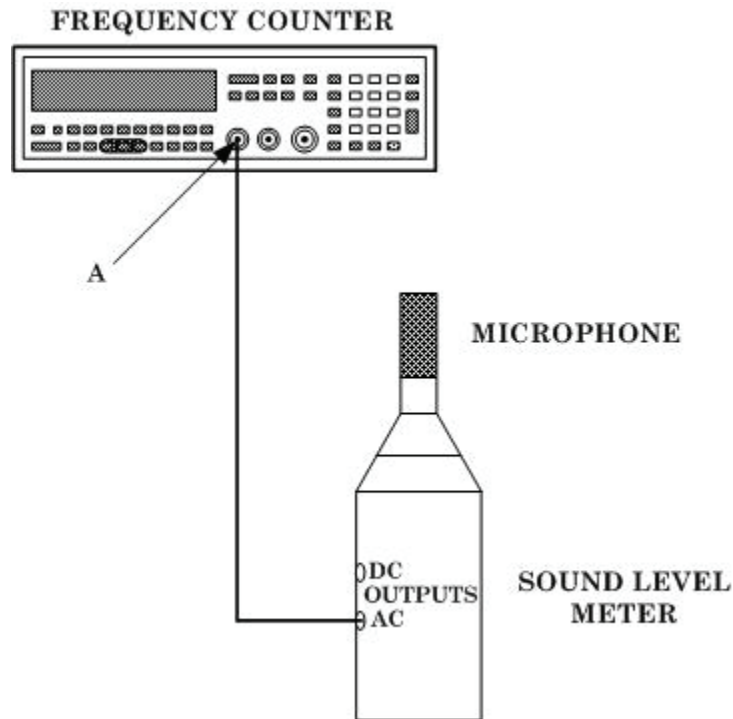

Figure 1. Sound level meter equipment.
a. Connect equipment as shown in figure 1.
b. Position sound level meter switches as listed in (1) through (4) below.
- b. Strike tuning fork sharply on the edge of wooden (or plastic) bench (or table) and hold approximately  $\frac{1}{4}$  inch over microphone (fig. 1) while observing frequency counter indication. Record frequency counter indication.